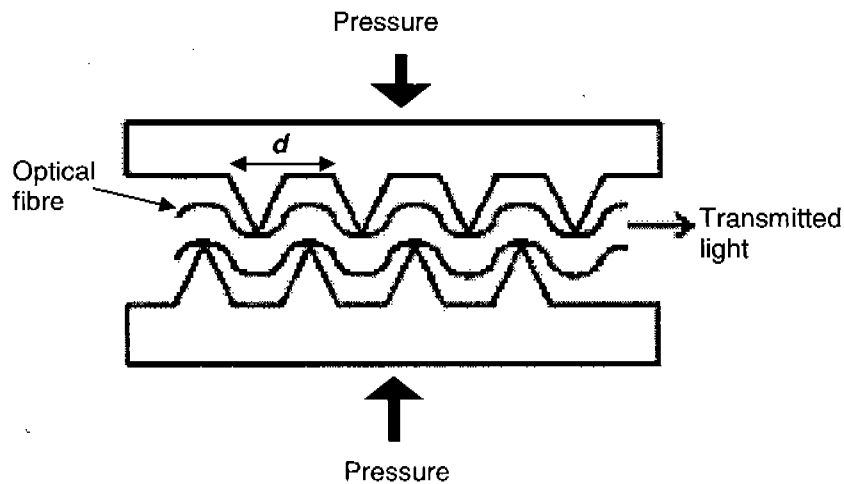

Figure 1
- (b) Describe how variations in intensity of light transmitted through the sensor depicted in Figure 1 might be used to monitor changes in pressure. (Assume the period, d , of the 'jaws' is of the same order as the wavelength of the transmitted light).